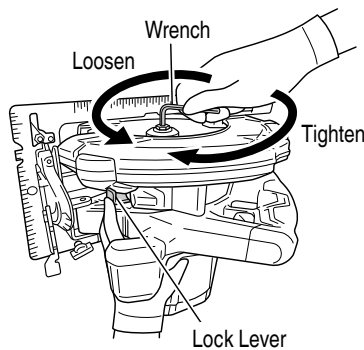
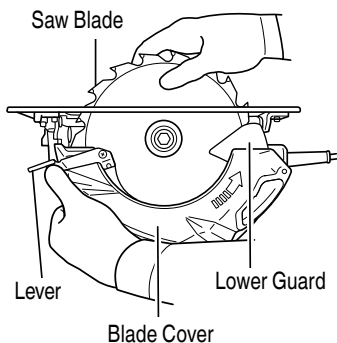

Fig. 14
Fig. 15
- (1) Set the cutting volume at maximum, and place the Circular Saw as shown in Fig. 14.
- (2) Depress the lock lever, lock the spindle, and remove the hexagonal-flange bolt and washer (B) with the Hex. Bar wrench.
- (3) While holding the lever to keep the lower guard fully retracted into the blade cover, remove the saw blade. (Fig. 15)